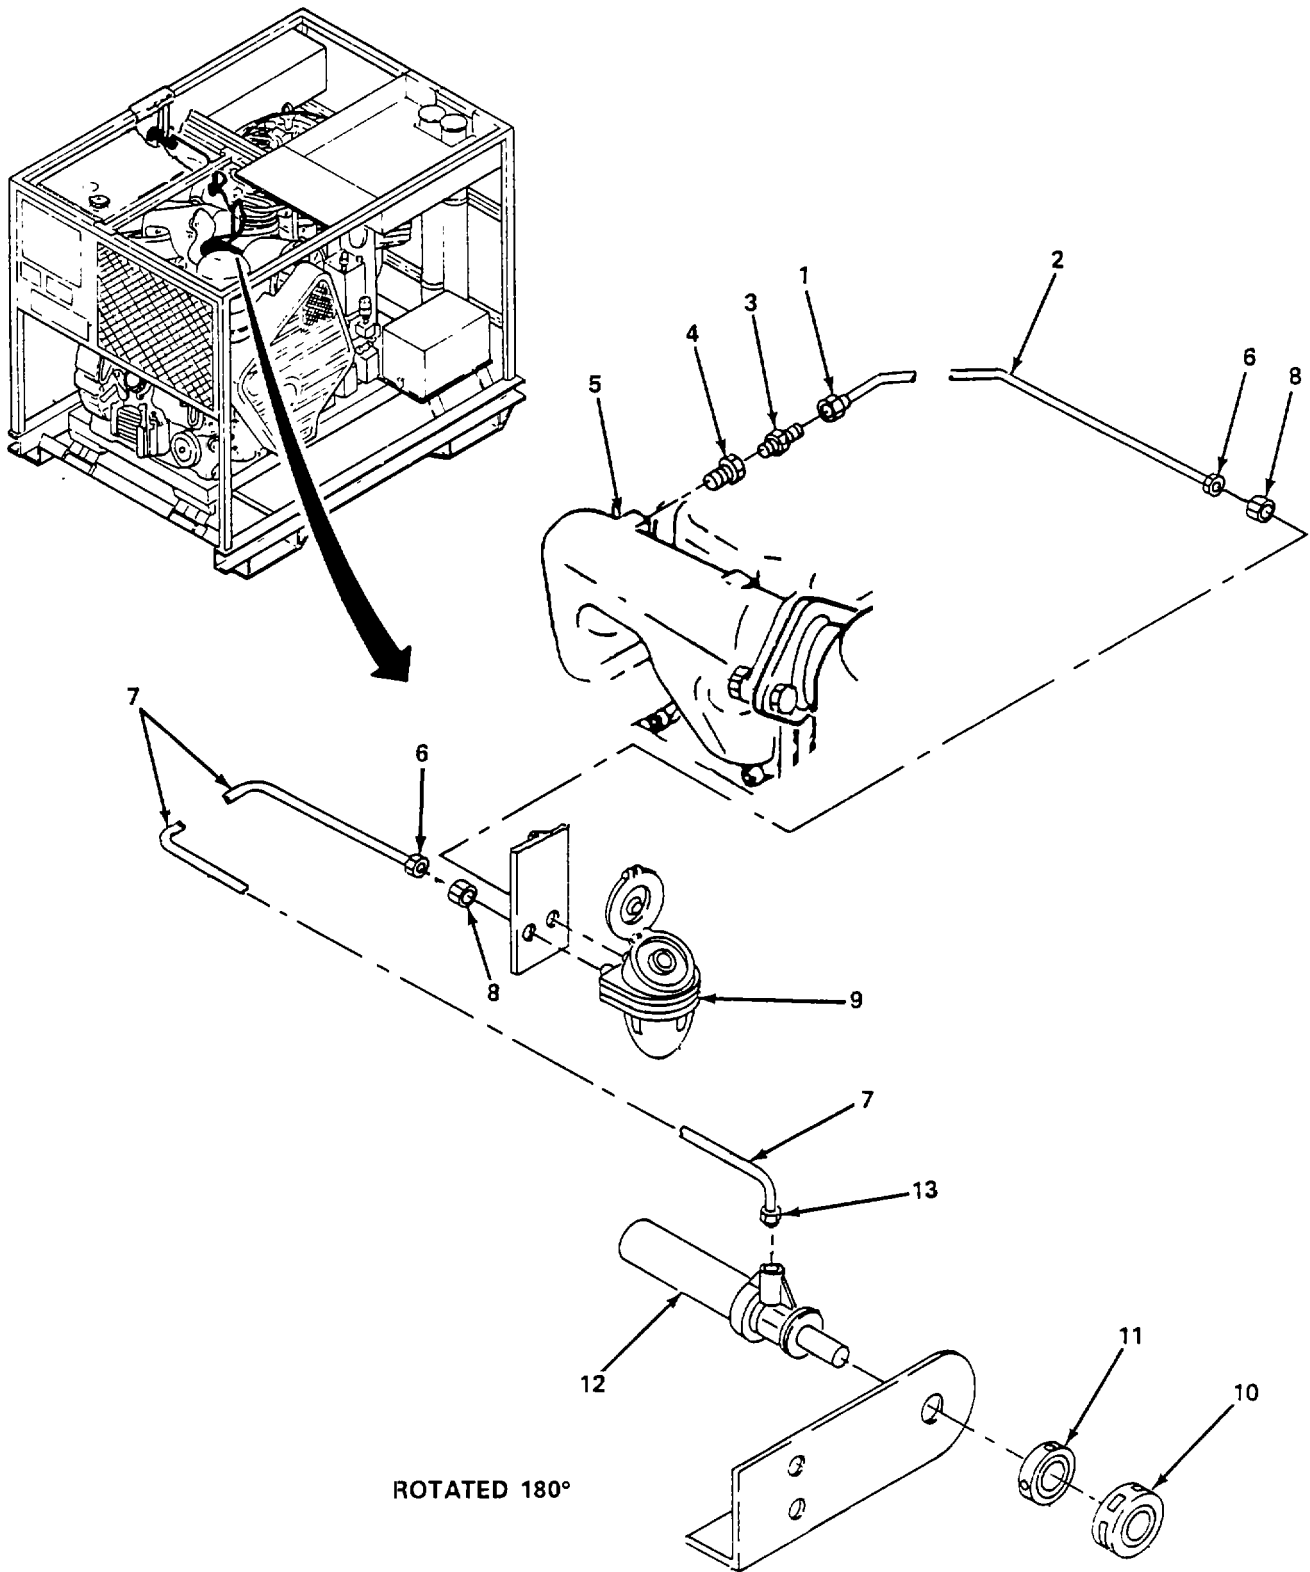

Figure 4-62. Starting Aid, Replace.
a. Replace. (figure 4-62)
- (1) Loosen fitting nut (1) and remove line (2).
- (2) Remove fitting (3) and (4), from intake manifold (5).
- (3) Loosen two fitting nuts (6) and remove lines (2) and (7).
- (4) Remove two fittings (8) and remove reservoir (9).
- (5) Remove knob (10) and locknut (11) and remove hand pump (12).
- (6) Loosen fitting nut (13) and remove line (7).
- (7) Install line (7) on pump (12) and tighten fitting nut (13).
- (8) Install hand pump (12) and secure with locknut (11).
- (9) Install knob (10).
- (10) Install reservoir (9) and secure with two fittings (8).